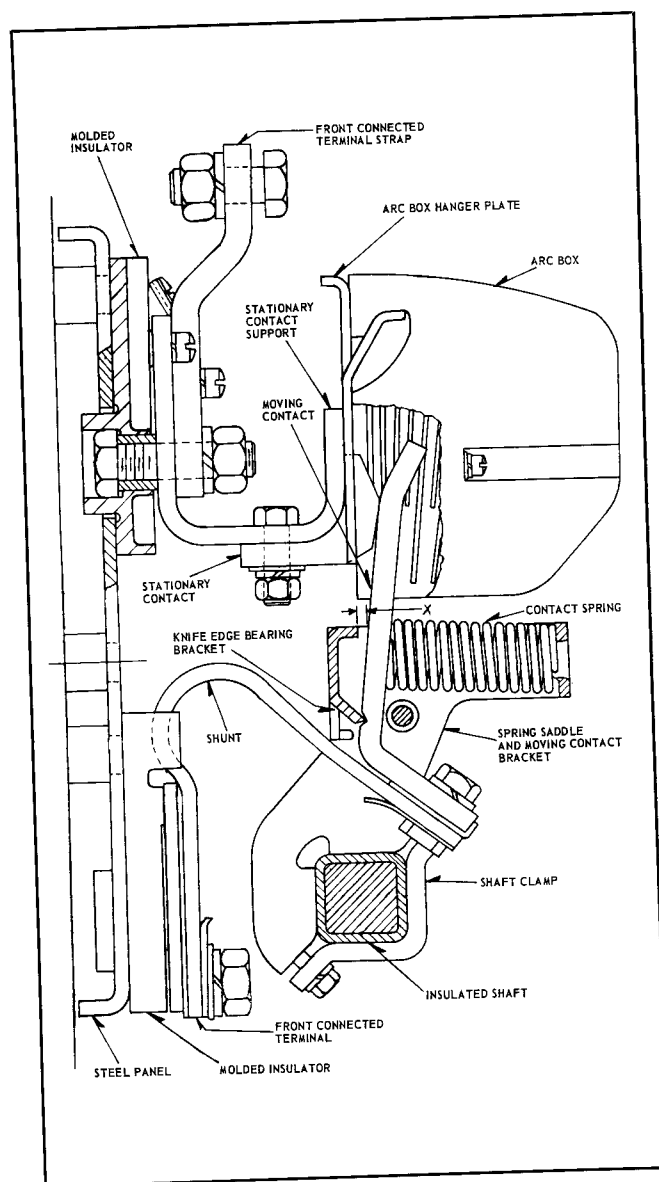

FIG. 3. Overtravel Measurement
Contact replacement is necessary when the overtravel has been reduced to  $\frac{5}{32}$  inch. This is represented by a gap of  $\frac{1}{16}$  inch measured at point "X", Figure 3.
**Contact Adjustment.** Make sure that the contacts touch simultaneously. Sufficient adjustment can generally be obtained by a selective tightening of the two bolts securing the shaft clamp to the moving contact bracket (Fig. 3), tightening one more than the other to produce a slight rotation of the assembly on shaft.